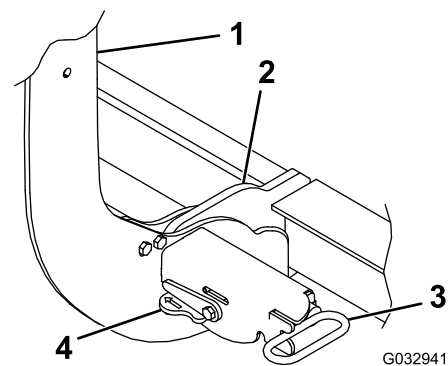

Figure 35
3. Turn the levers on the couplers to the ON position (Figure 35).
6. Ensure that both coupler spring pins have fully engaged the coupler (Figure 35).